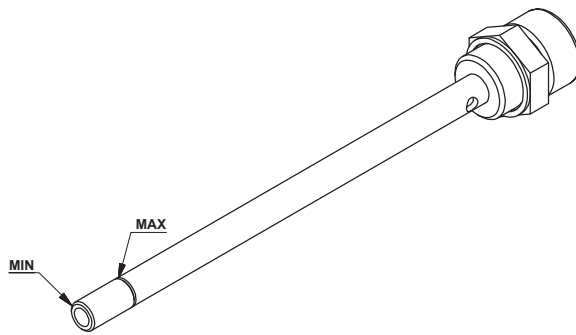

FIG. 28
- Check that the level is between the minimum and maximum indicated on the dipstick (Fig. 28)